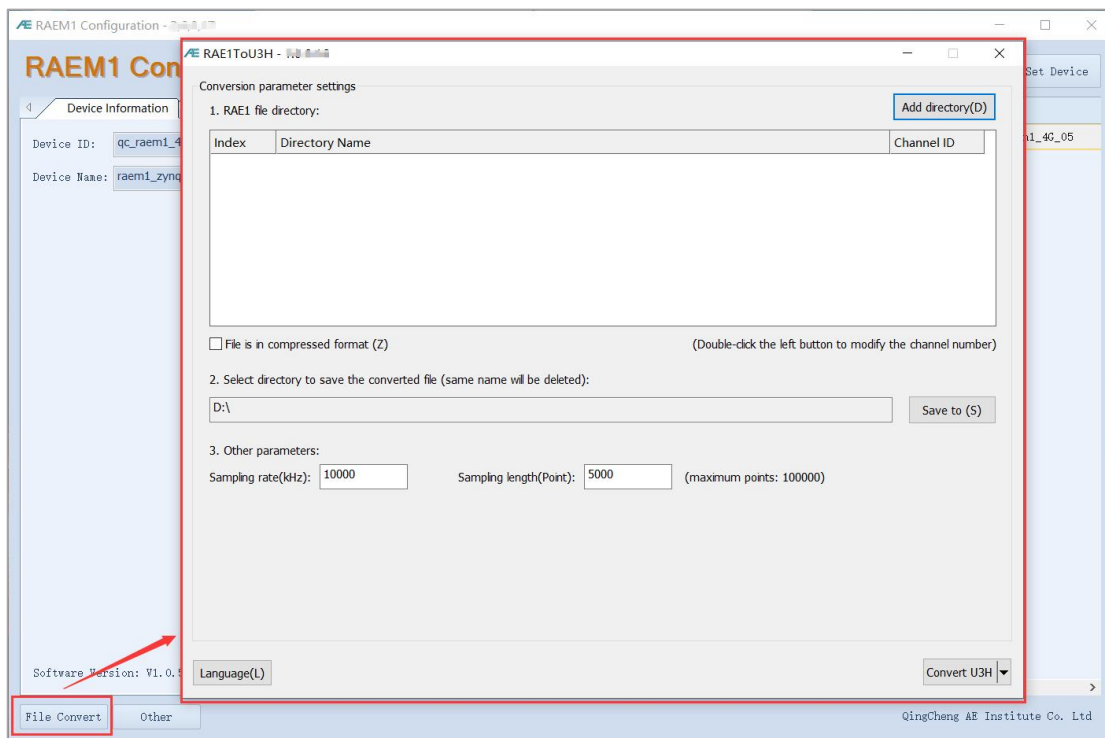

Fig. 9-1 Open RAE1ToU3H
2) Open **RAE1toU3H.exe**. It can also be opened through **RAEM1 Configuration software** >> **File Convert** button at the bottom left corner. See Figure 9-1.